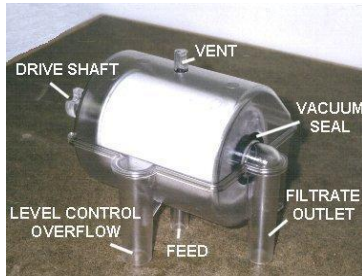

Figure 8
1. Figures 8 and 9 show the connection points to the Disposable Rotary Drum Filter.